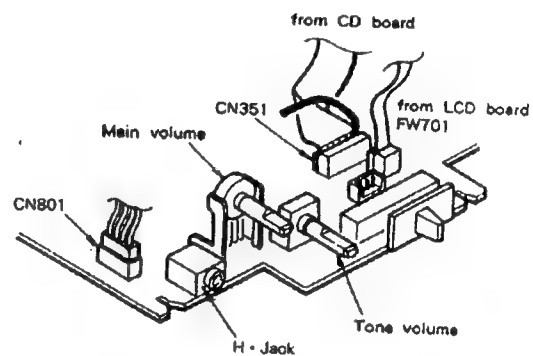
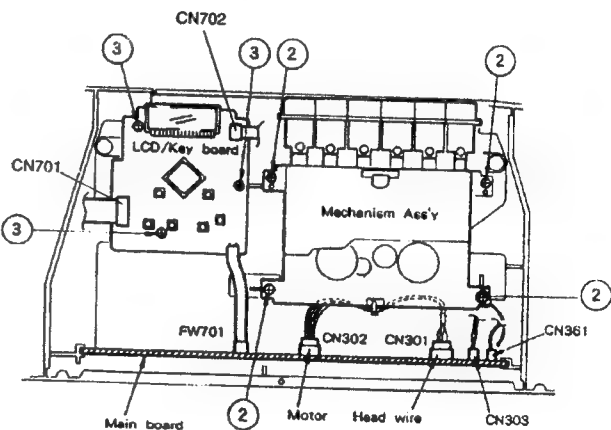
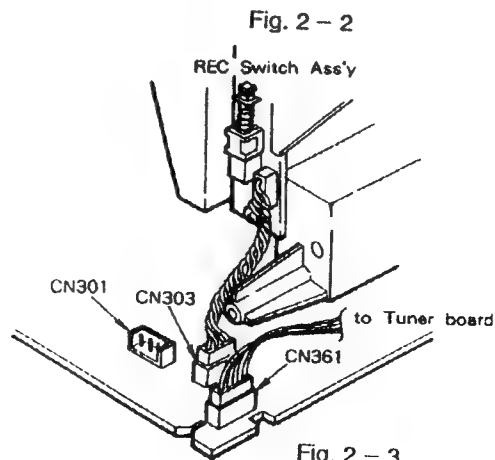

Fig. 2-1-2
Fig. 2-2
Fig. 2-3
- 4) Remove the speaker wire connector (CN801) from the main board ass'y. (See Fig. 2-1-2)
#### ◆ Mechanism ass'y (See Fig. 2-2)
#### ◆ LCD board ass'y (See Fig. 2-1-2 and Fig. 2-2)
#### ◆ CD unit (See Fig. 2-1-2 and Fig. 2-3)
- 2) Remove the CD connector (CN351) from the main board ass'y. (See Fig. 2-1-2)